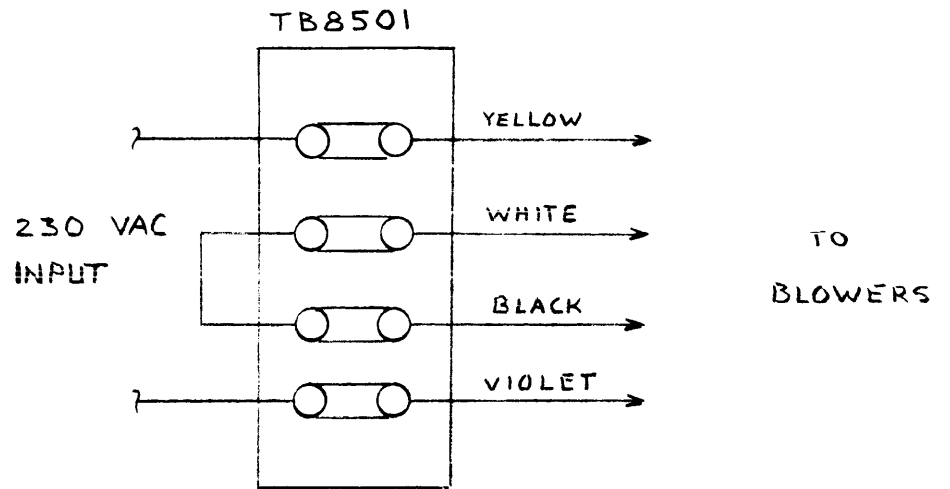

Figure 2-3. 230-V Line Voltage Modification, Cabinet Blowers
#### 2-4. 230V LINE VOLTAGE MODIFICATION (REFER TO FIGURE 2-3).
f. BLOWERS - Relocate jumpers at rack terminal block TB8501 as shown in figure 2-3, for 230 VAC line.